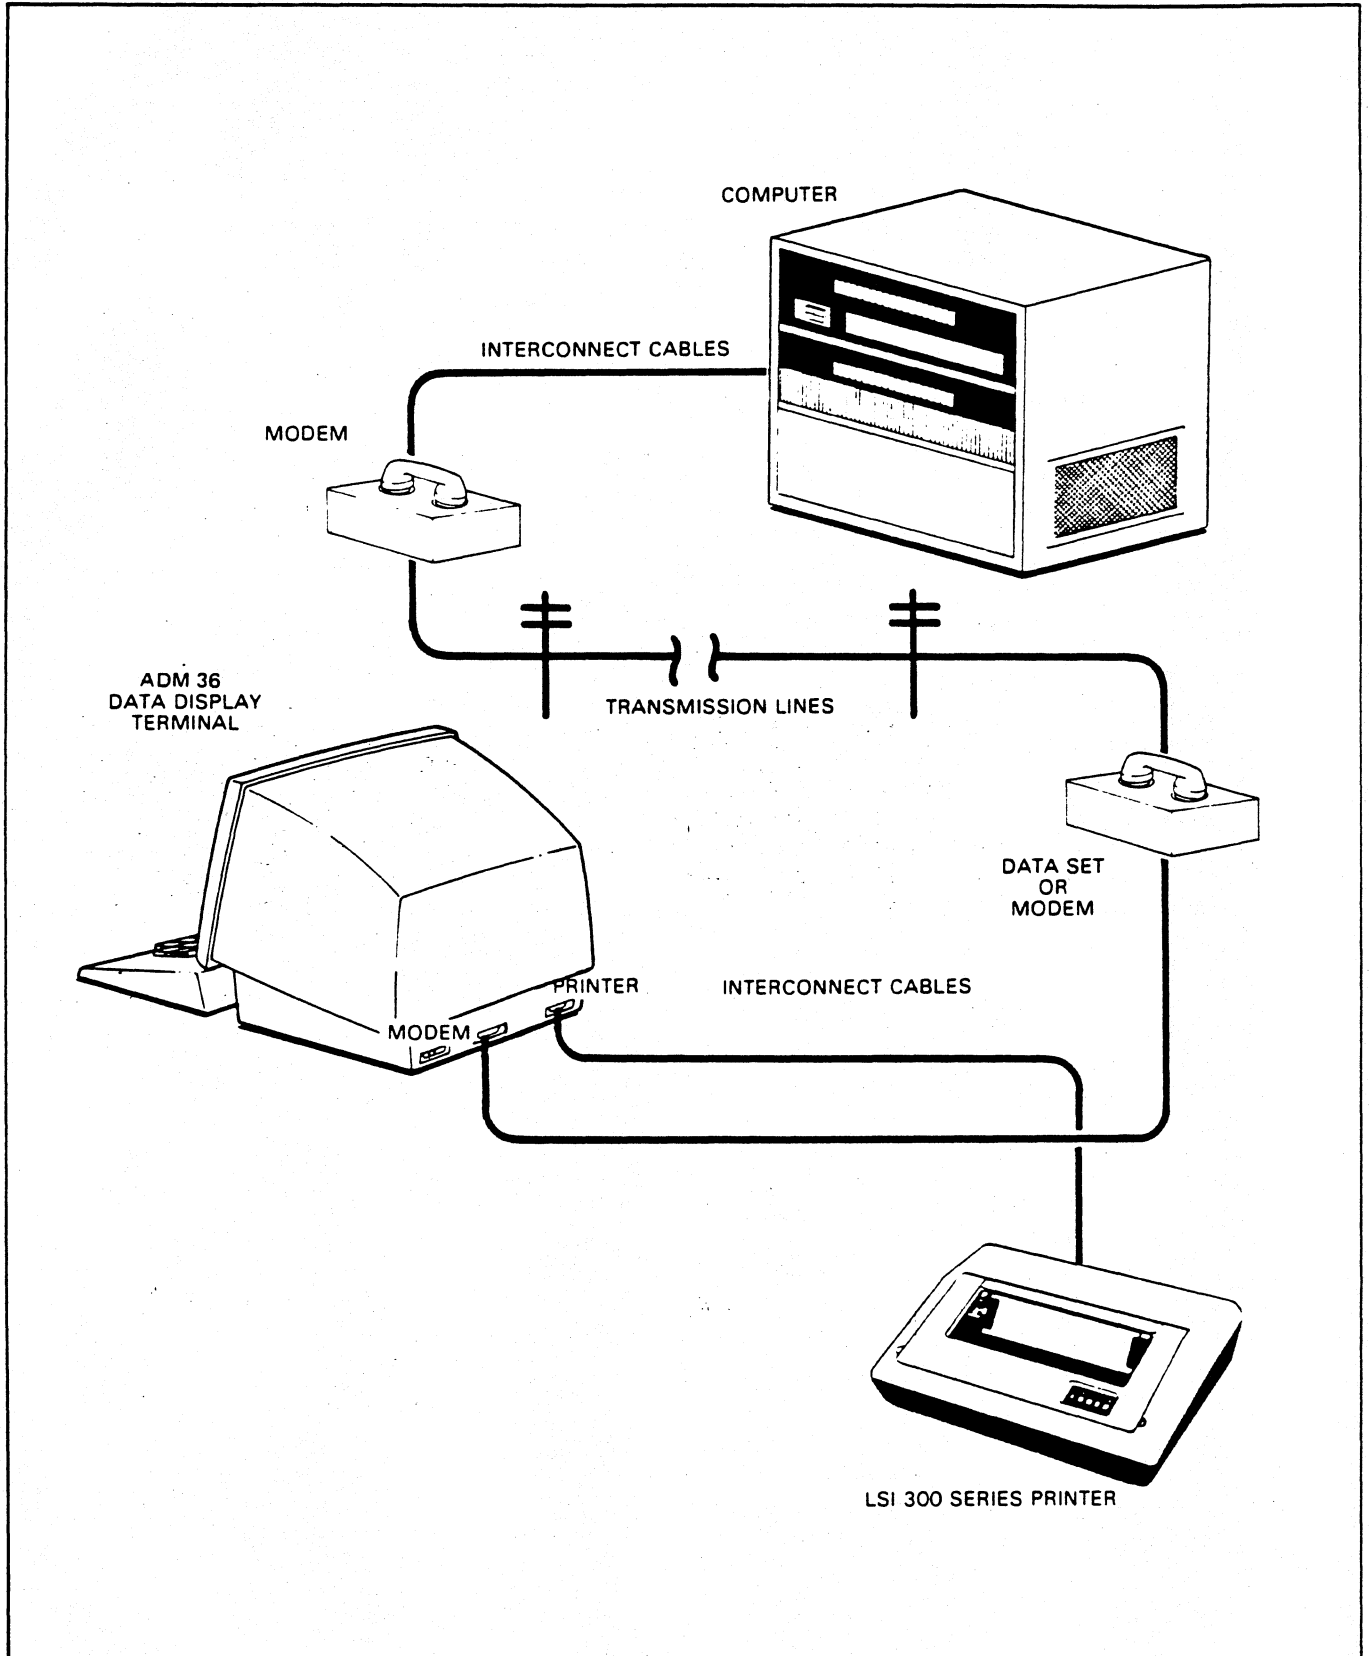
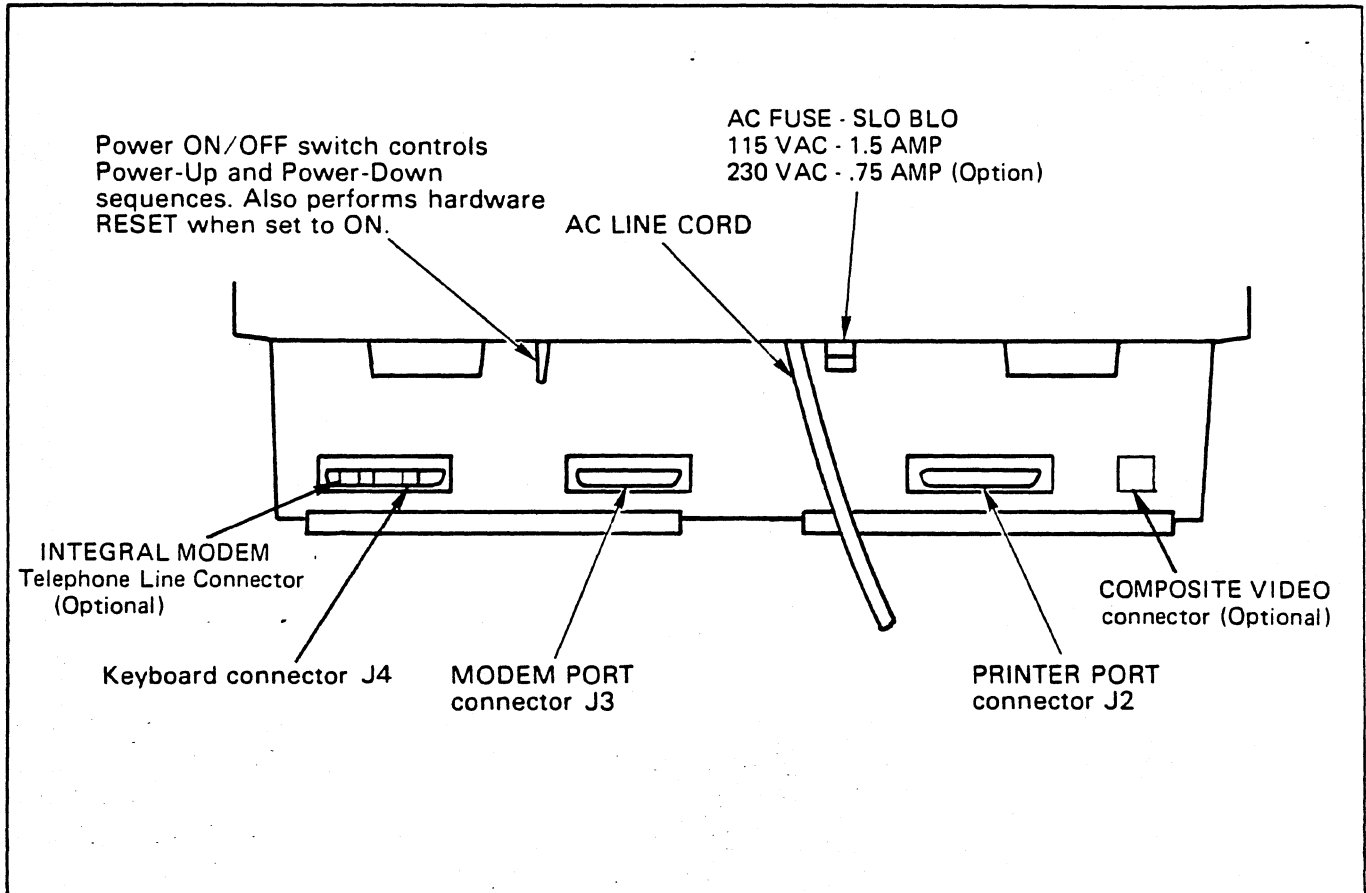

Figure 2-6. Typical ADM 36 Applications
Figure 2-7. ADM 36 Panel Controls
anywhere in the world. Remote computer connections require the use of a modem or data set **figure 2-6** shows a typical ADM 36 application, while **figure 2-7** shows the rear panel location of the interface connectors.
1. Check the ON/OFF switch (**figure 2-7**) to ensure that it is set to OFF.
1. Set the ON/OFF switch to ON. (See **figure 2-7**.)
Refer to **figure 2-7** and proceed as follows: